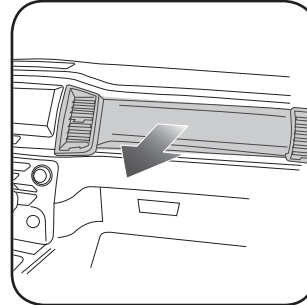

Fig. 1.1
1. Unclip and remove the passenger side vent and dash panel assembly. (Fig. 1.1)